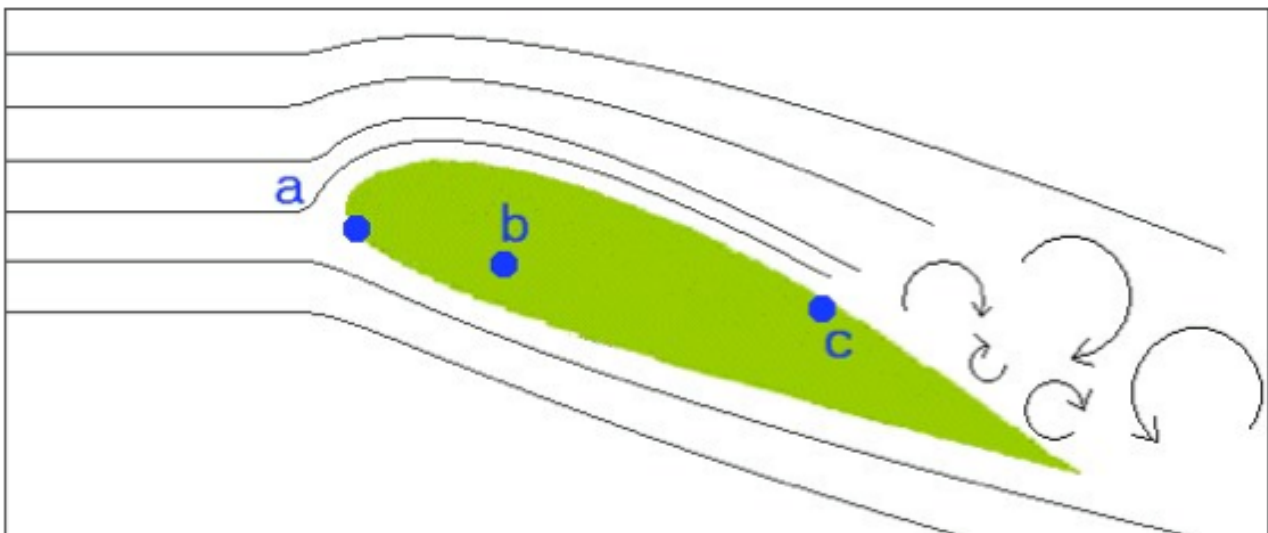

Figure A20: Significant aerodynamic points of a profile.
See Figure A20. **Questions 042-046 and 049.**
See Figure A20. **Questions 062-065, 068 and 071.**
- In (b), the impact is significant: The lift is reduced and the drag increased. A stall point (X) (see also Figure A20) appears on the upper surface. Behind this point, turbulence results in a component of downward pressure downwards which replaces the negative pressure.